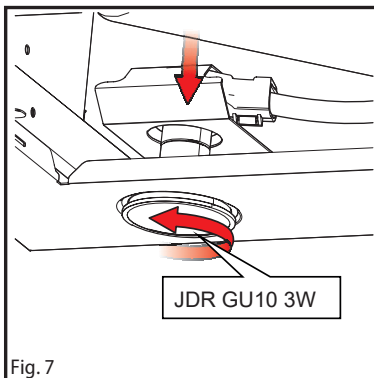
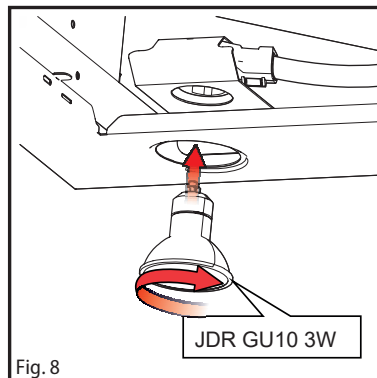

Fig. 7
Fig. 8
- Replace the bulb as shown below (Fig. 7, Fig. 8)